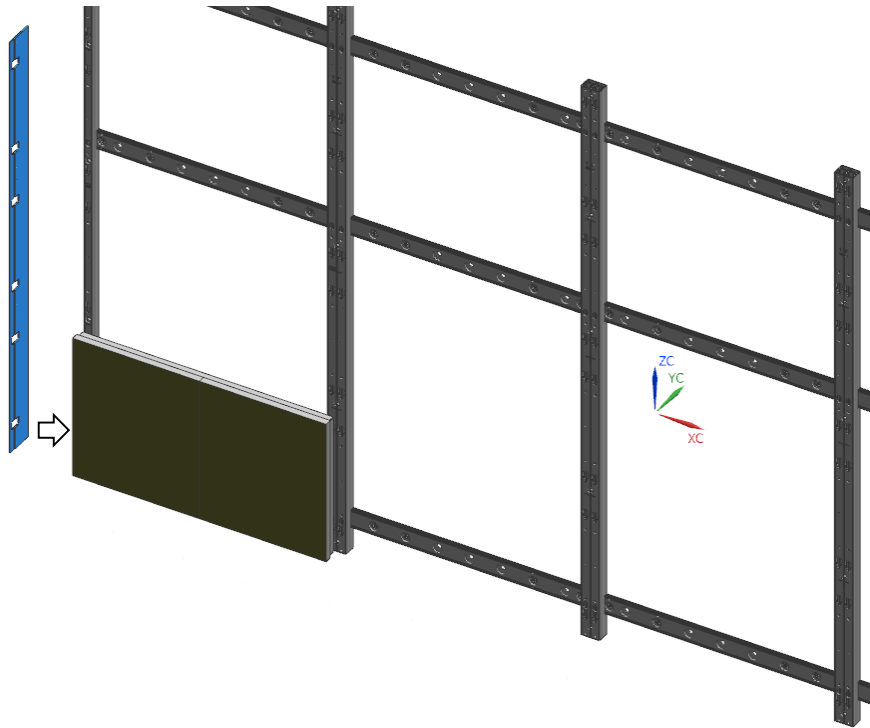

Fig.3-1 Cabinet Installation
③ After installing the I / G, install the cabinet from the end of the first floor. (Fig.3-1)